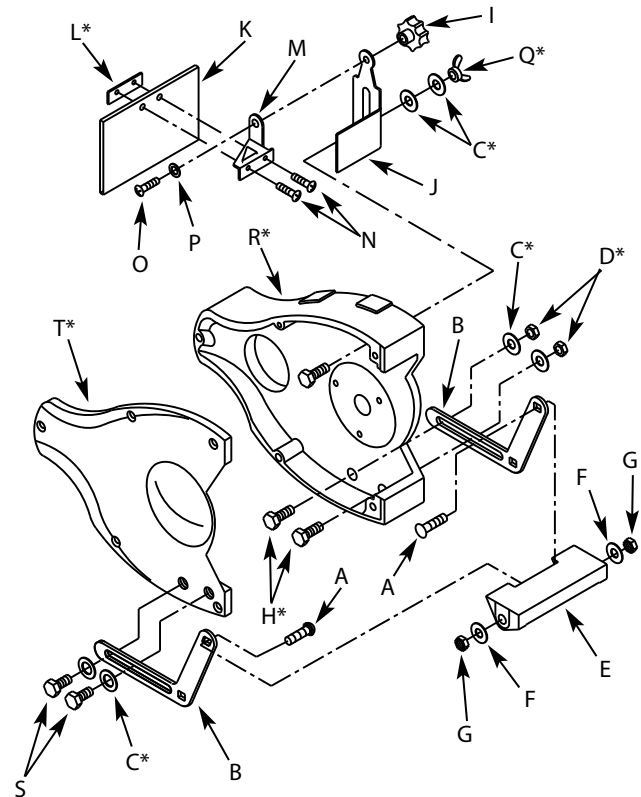

Figure 1 – Left tool rest and eyeshield assembly.
1. Slide 5/16-18" carriage bolts (A) into square holes in tool rest brackets (B).
2. Slide carriage bolts with brackets into holes on inside of tool rest (E) as shown in Figure 1. Slide 8mm flat washers (F) and 5/16"-18 hex nuts (G) onto carriage bolts. Tighten nuts finger tight.
3. Remove 3/8" hex nuts (D) and washers (C) from 3/8-16 x 1 1/4" hex bolts (H) mounted to bottom front of left wheel guard (R).
4. Slide slot in tool rest bracket (right side) over 3/8" bolts. Replace flat washers and hex nuts. Position left side tool rest bracket over threaded holes in wheel guard cover and secure with 3/8" flat and spring washers (C) and 3/8-16 x 5/8" hex bolts (S). Position tool rest so that distance between tool rest and grinding wheel is less than 1/16". Secure all nuts and bolts.